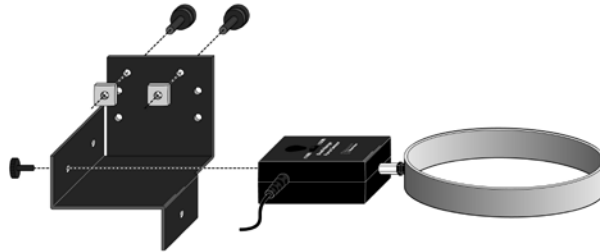

Figure 2 Connect the Dual-Range Force Sensor to the bumper-launcher assembly.
3. Set the range switch on the Dual-Range Force Sensor to 10 N. Replace the hook end of the Dual-Range Force Sensor with the hoop spring bumper. Attach the Dual-Range Force Sensor to the bumper launcher assembly as shown in Figure 2. Then attach the bumper-launcher assembly to the end of the track opposite the Motion Encoder Receiver.